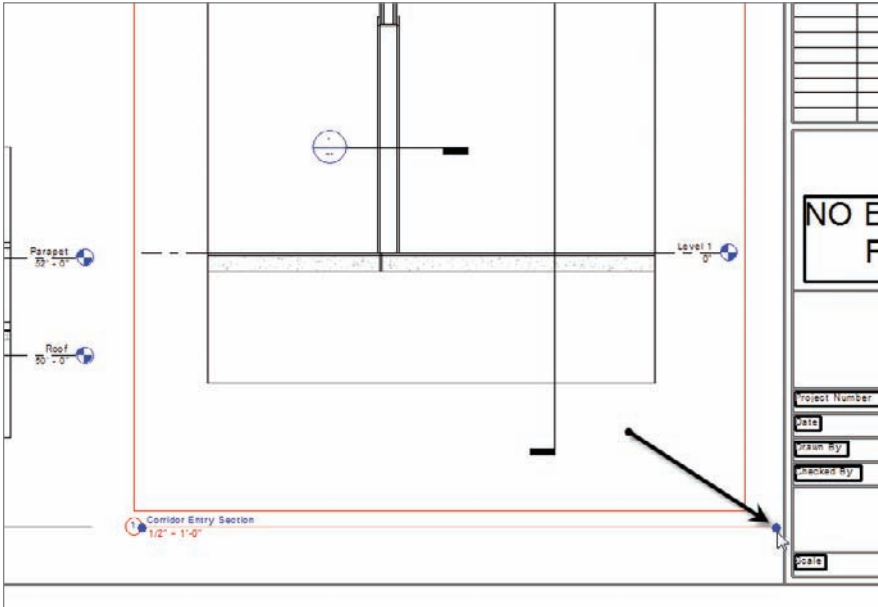

FIGURE 14.15 Stretching the view title line to the right via the blue grip
8. Zoom in on the view title for the Corridor Entry Section, as shown in Figure 14.15.
10. Extend the line by stretching the grip on the right to the right, as shown in Figure 14.15.